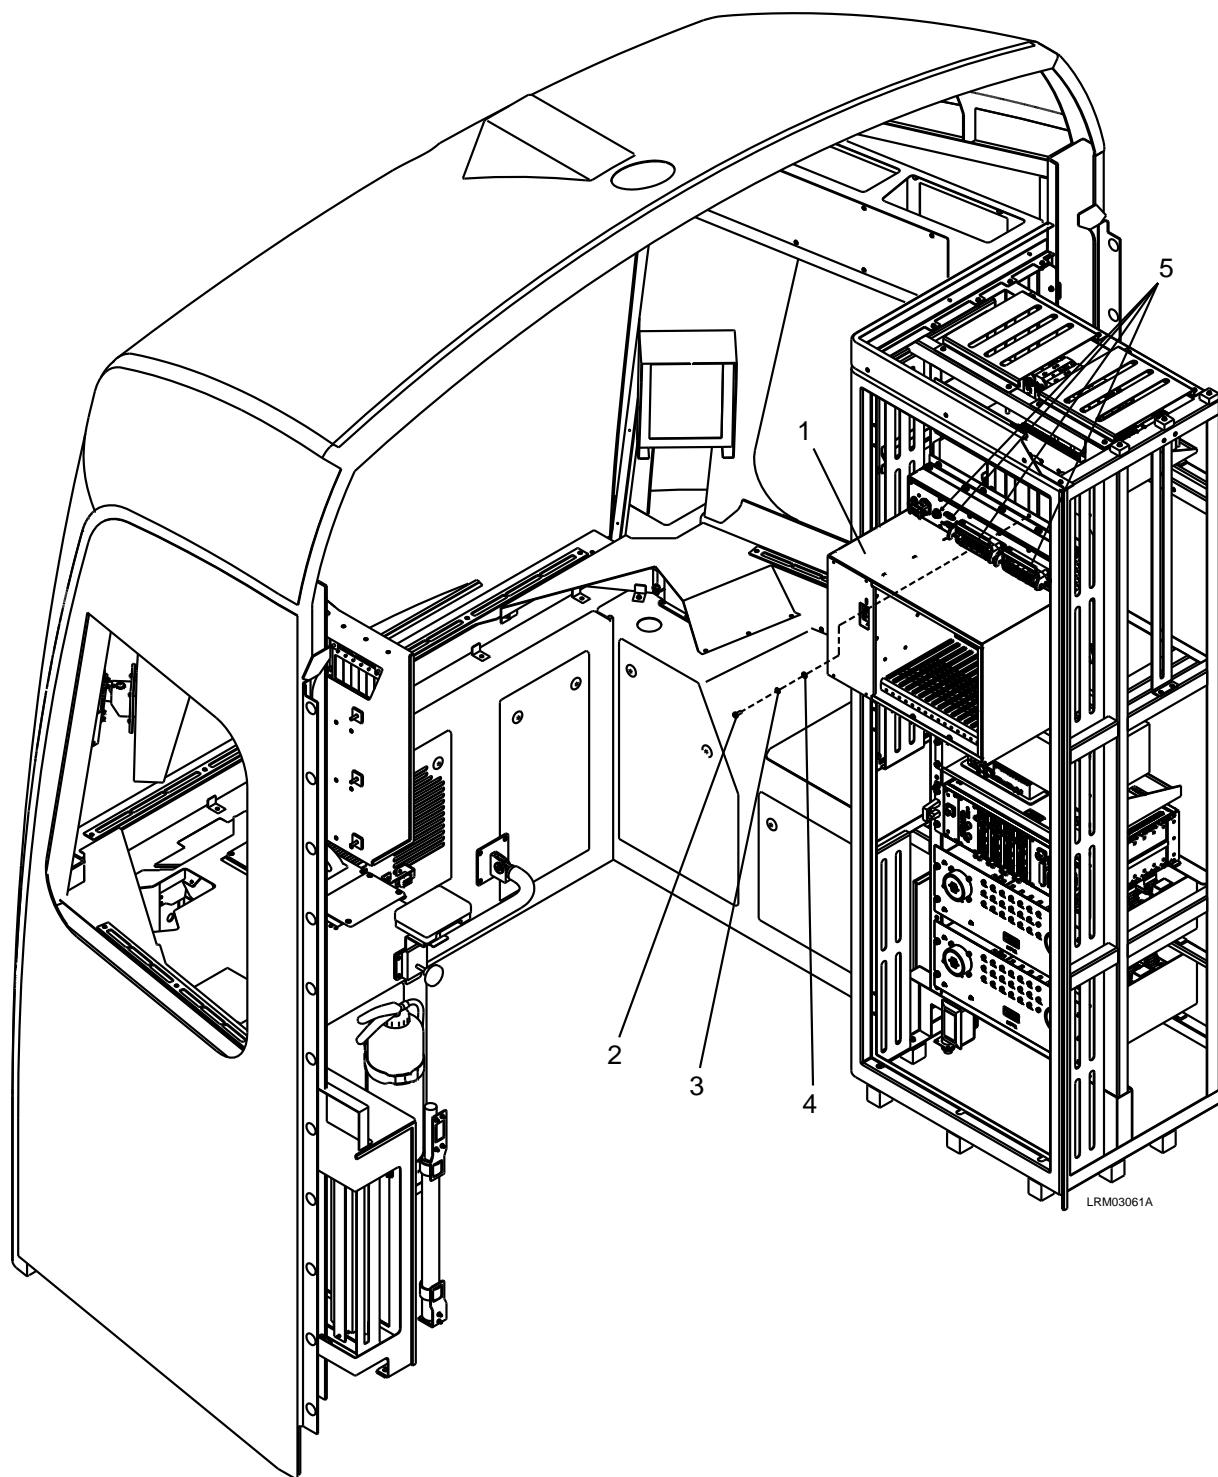

Figure 7-42: ATC Enclosure
2. Disconnect the electrical connectors (5) to the ATC Enclosure (1). See Figure 7-42.
3. Remove the eight M6 x 16 screws (2), M6 lock washers (3), and M6 plain washers (4).
4. Carefully remove the ATC Enclosure (1).